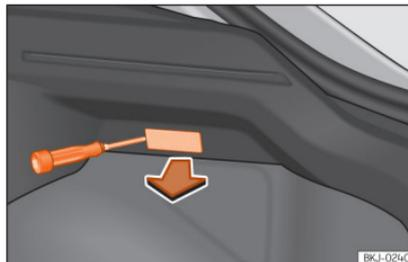

Fig. 64 Boot light.
- Extract the bulb by pressing on its inside edge using the flat side of a screwdriver »» **Fig. 64**.